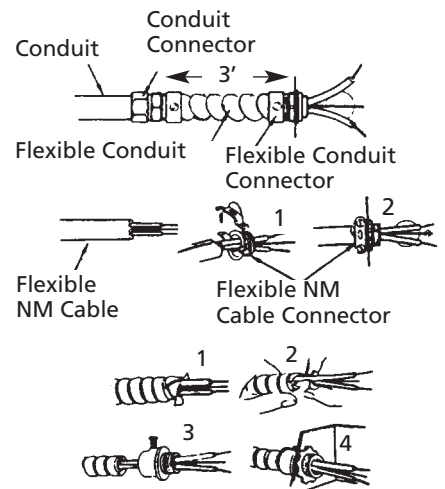

Figure 6 – Connectors, cable, and hardware used to wire the heater
2. Attach the cable connector to the unit (see Figure 6) and slide the 10 gauge wire through the cable connector.
**NOTE:** For certain applications, conduit may be required (see Figure 6). Check local electrical codes. If you run the wiring in conduit and wish to be able to turn the heater be sure to purchase enough flexible conduit to allow the heater to be turned.